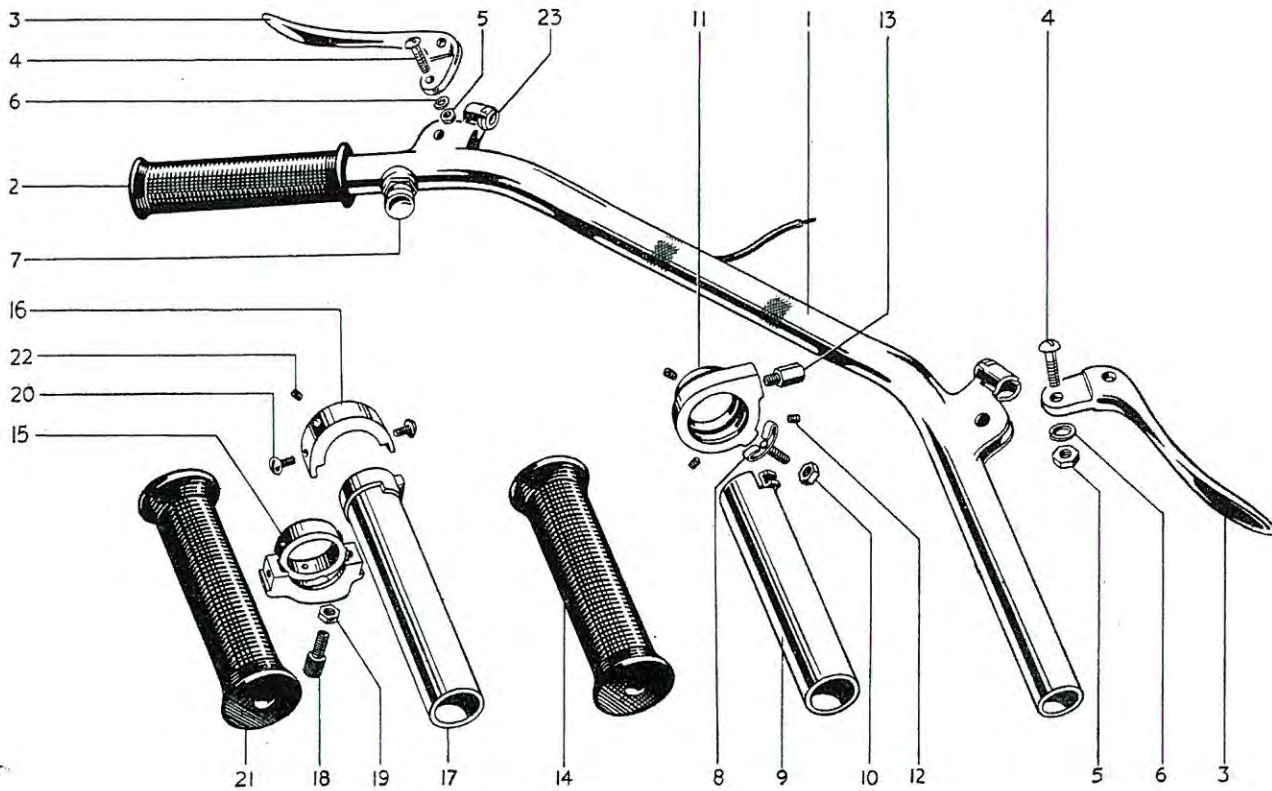

FIG. 13. HANDLEBAR AND COMPONENTS.
*Illustrated on Page 40—Fig. 13*